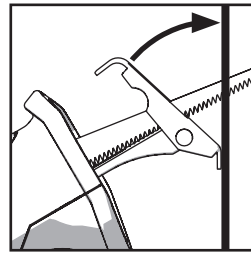

Fig. 7
- Hold the machine at an angle to the workpiece with the bottom edge of the workpiece contact plate resting firmly against the workpiece. (**Fig. 7**).